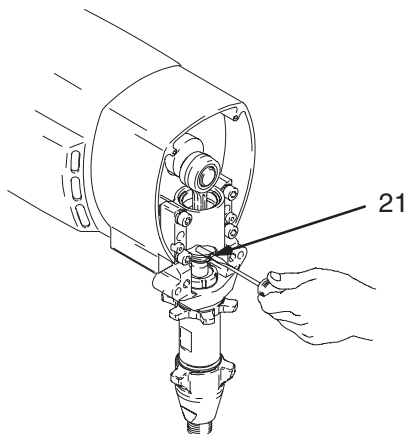

Fig. 24 7675A
2. Fig. 24. Push pin (21) into holes.